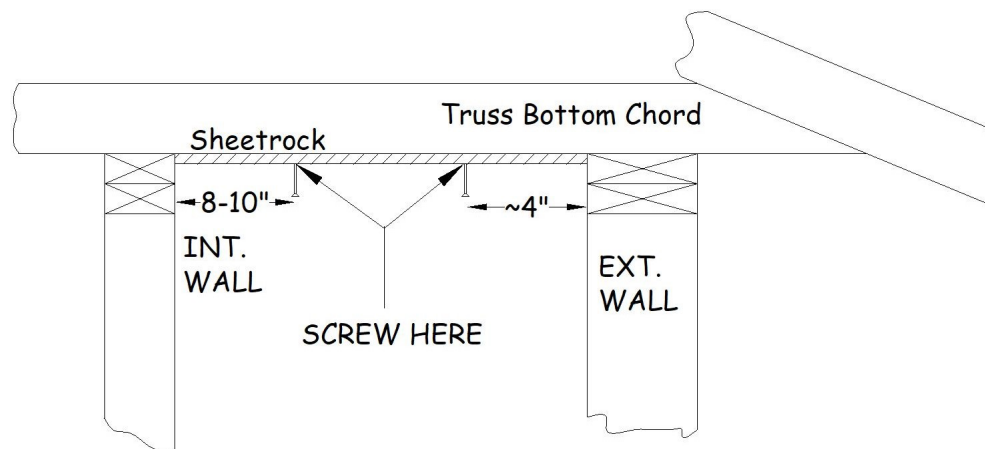

Figure 13-4. Screw Locations for Ceiling Sheetrock.
14. When fastening sheetrock to trusses that cross interior or exterior walls, hold the screws 8"-10" away from interior walls, and about 4"-6" away from exterior walls (see Figure 13-4).